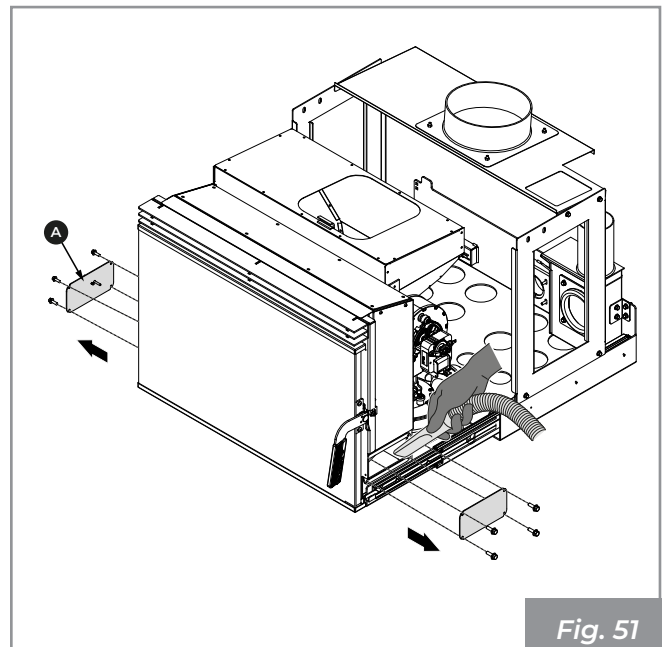

Fig. 51
- Remove the screws and covers **(A)**; remove the covers to access the manifolds (**Fig. 51**)